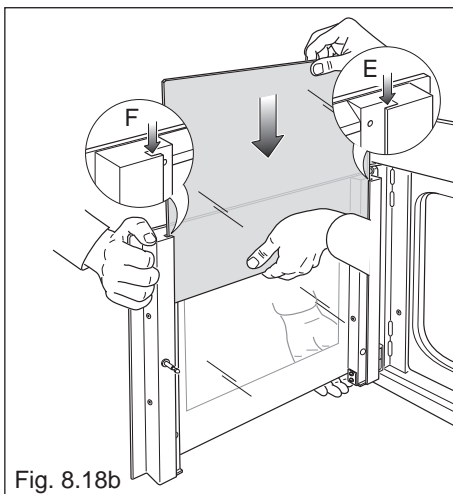
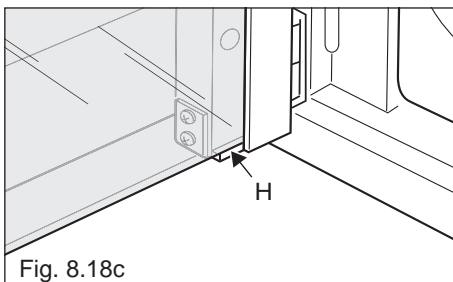

Fig. 8.18b
Fig. 8.18c
- Whilst one person holds the door still, a second person should insert the inner pane in the left "E" and right "F" side guides (fig. 8.18b) and gently let it slide up to the retainers "H" (fig. 8.18c). Forceful replacement of the door glass may lead to damage of the door hinges.